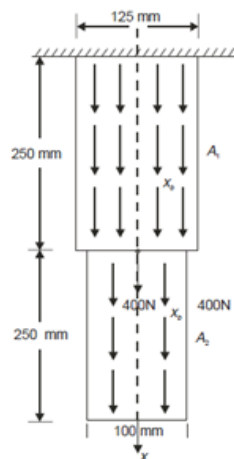

Figure 1
4. The thin plate of uniform thickness 20 mm, is as shown in Figure 1. In addition to the self-weight, the plate is subjected to a point load of 400N at mid-depth. The Young's modulus $E = 2 \times 10^5 N/mm^2$ and unit weight $\rho = 0.8 \times 10^{-4} N/mm^2$. Analyse the plate after modelling it with two elements and find the stresses in each element. Determine the support reactions also. [14M]